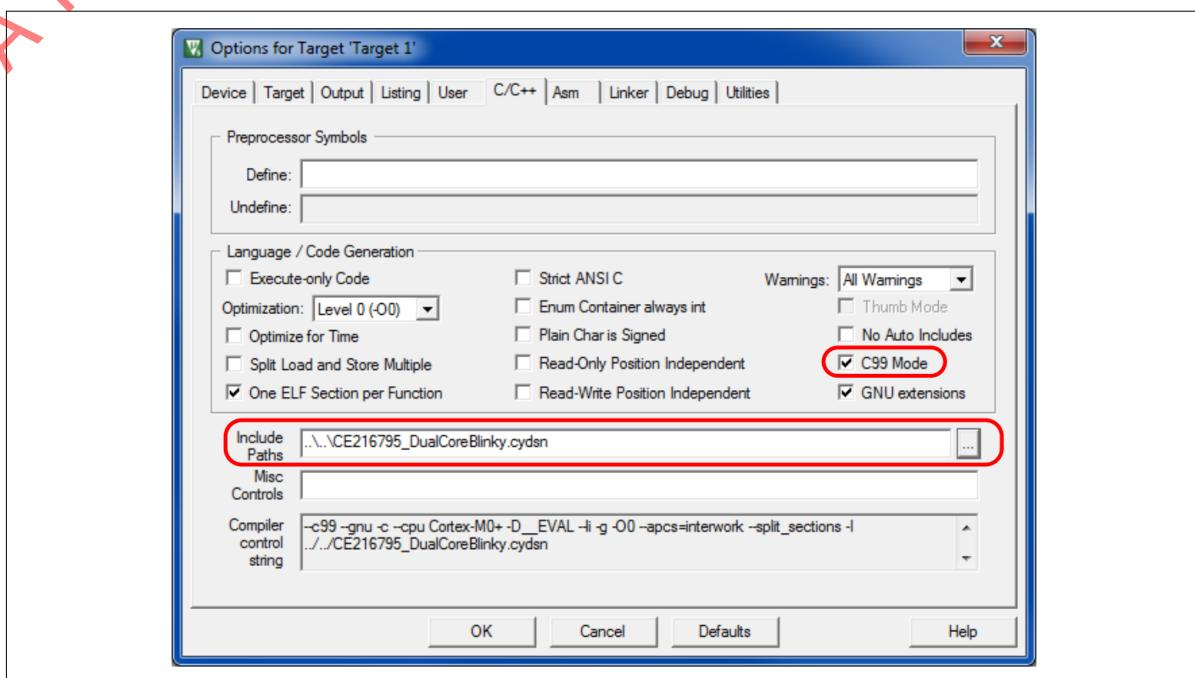

Figure 425 Project C/C++ options
Confirm in the **C/C++** tab that the **C99 mode** option is checked, as Figure 425 shows. (PDL is developed based on C99.) Add the PSoC™ Creator <project>.cydsn folder to the **Include Paths**; this provides a link to the .h files in the PSoC™ Creator project. Update other options and fields as needed
- In the **Options** dialog, **C/C++** tab, add `--fpu=fpv4-sp` to **Misc Controls**; see Figure 425